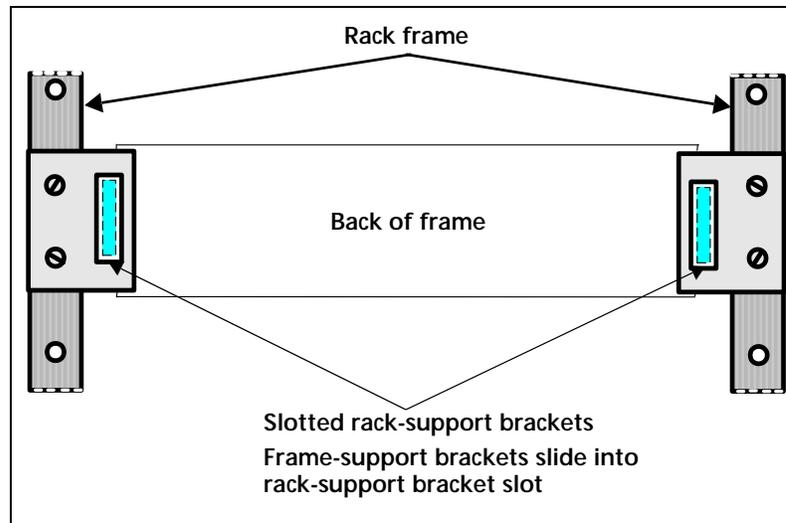

Figure 2-5 Installing Rack-Support Brackets
- 3 Attach the two slotted rack-support brackets at the rear of the rack, with the slots facing inward. See Figure 2-5.